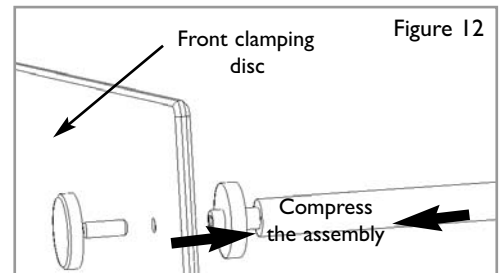

Figure 12
**Enigma models only:** To fit the decorative corner columns, ensure the main glass facia is mounted in position. Remove any transit tape and unscrew the front clamping disc and remove. Compress the column assembly and position behind the glass panel, lining up with the appropriate hole (figure 12). Release the assembly when in position and secure in place by refitting the front clamping disc.